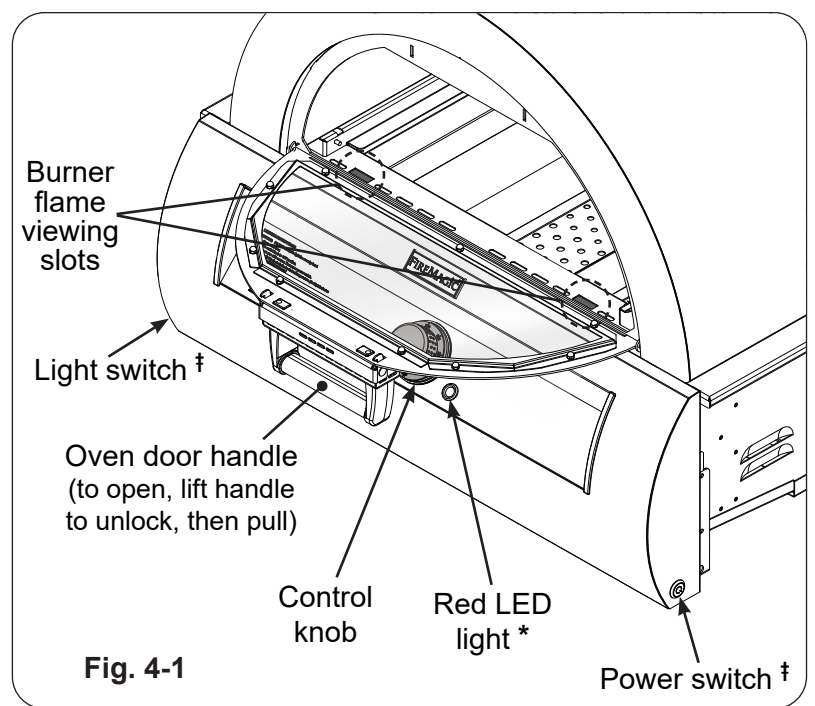
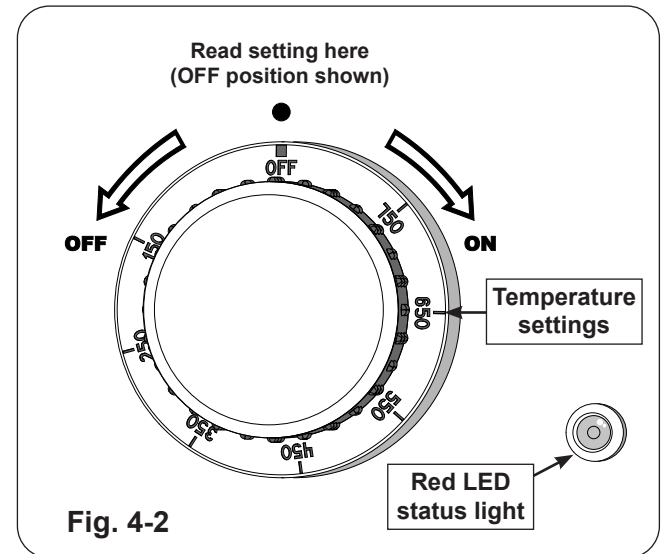

Fig. 4-1
Fig. 4-2
3. Turn on the gas at its source. Then press the power switch (see Fig. 4-1).
**Important:** Visually inspect the burner flames via the two rectangular flame viewing slots (see Fig. 4-1).
**CAUTION:** If the burners do not light within ten (10) *seconds* of turning on the control knob, turn it to the **OFF** position. **WAIT FIVE (5) MINUTES** before repeating step 4. If you smell gas, follow the instructions on the cover of this manual. If the burners still do not light after several attempts, turn the system **OFF** and contact a qualified professional service technician.
**For your convenience and safety, when the ignition system is lighting the unit AND when the burners are lit, the red LED status light will illuminate (see Fig. 4-2).**